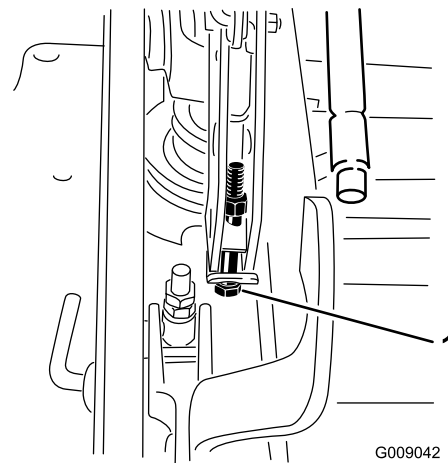

Figure 95
12. If the deck is too low, tighten the single-point-adjustment bolt by rotating it clockwise. If the deck is too high, loosen the adjustment bolt by rotating it counterclockwise (Figure 95).